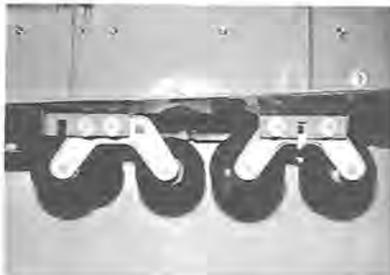

Figure 9-35
- c. Install four new style rubber mounts on rear dolly. These mounts should be installed in rear two holes of bracket (see Figure 9-35).
- d. Install four new style rubber mounts on center dolly. These mounts should be installed in front and rear holes of bracket (see Figure 9-35).
- e. Remove bracket from side of front dolly and replace with new style bracket included in kit. Install four new style rubber mounts in front and rear holes of the bracket (see Figure 9-35).
- j. Replace front and center dollies in normal slots. Replace rear dolly in front two slots of bracket (see Figure 9-35).